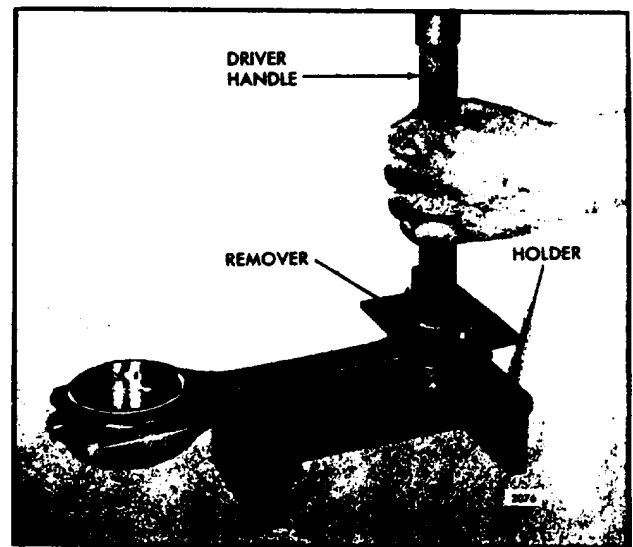

Fig. 4. - Removing or Installing Bushings
1. Clamp the upper end of the connecting rod in holder J 7632 (Fig. 4) so that the bore in the bushings is aligned with the hole in the base of the holder.
3. Insert installer J 4972-2 in the bushing, then insert handle J 1513-2 in the installer and drive the bushing into the connecting rod until the flange of the installer bottoms on the connecting rod (Fig. 4).